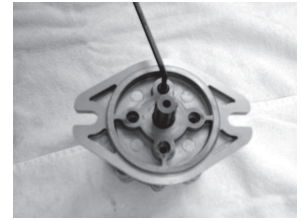

Fig. 8
2. Using an allen wrench, unscrew the four allen bolts and remove the front flange. Fig. 8.